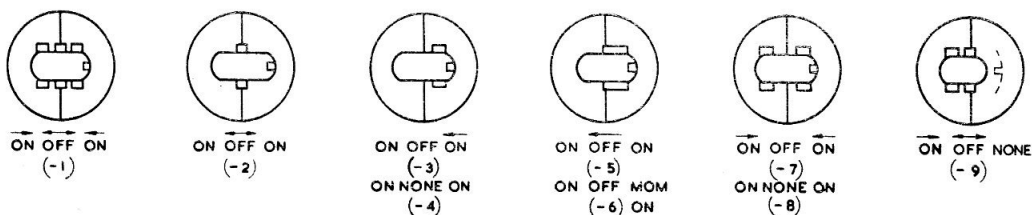

Fig. 1. Contact arrangement, MS 25125—1 to 9 series
6. The switch can be used as a single or double throw, with or without the centre "off" position. Momentary contact switches are normally 'open'. The current capacity of this type of toggle switch, when connected in a 28 Volt. d.c. or 115 Volt. a.c. circuit, under load, is shown in Table 1. Contact arrangements are shown in fig. 1.
10. Check the switch for positive locking, this should prevent motion of the toggle lever in the direction indicated by the arrow (fig. 1), until the locking mechanism is manually released. The force required to release the locking mechanism is between 4 and 6 lb.